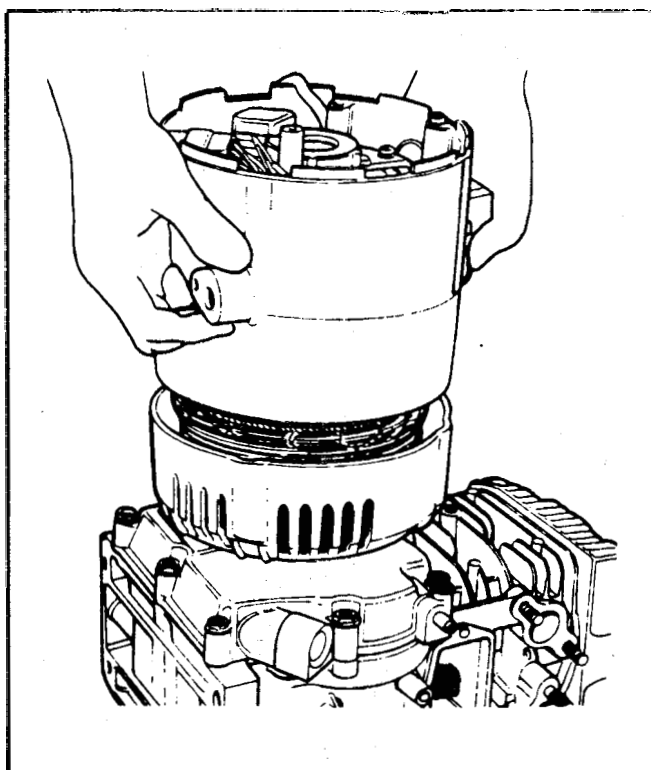

Figure 117
32. Align the through bolt holes with the holes in the front generator cover (the cover bolted to the engine) and install the stator. Take extreme care **not** to damage any of the coils in the stator. See Figure 117.